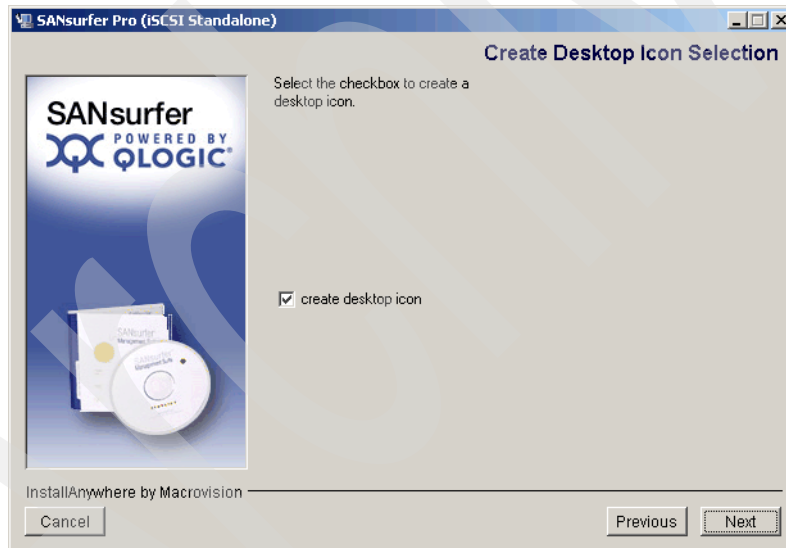

Figure 21-17 SANsurfer installation - Create desktop icon
10. Click **Next** to create an icon for the program on the desktop (Figure 21-17).